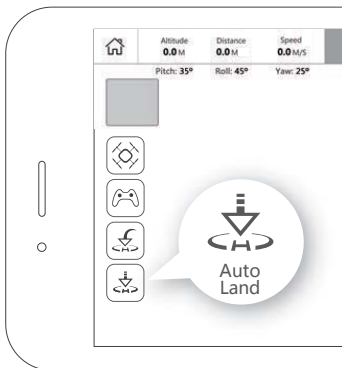

figure 1
2) Tap the Auto Land icon and the aircraft will slowly descend to the ground. (Figure 1)
1) Installation: Before installing propellers for the first time, please check that each Propeller A is matched with motor A and each Propeller B is matched with motor B. Align the "I" with the flat side of the "D" shaped motor shaft (Figure 1). Then use the provided screws and screwdriver to secure each propeller. Propeller A's are paired with black propeller screws and are tightened counterclockwise. Propeller B's are paired with silver propeller screws and are tightened clockwise.